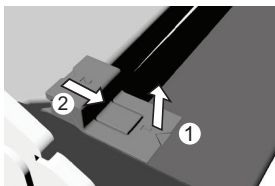

Figure 1
- Slightly lift the supports on the left and right side of the door (marking 1 on the support) and pull them away from the glass (marking 2 on the support) (see Figure 1). replacing the oven door.